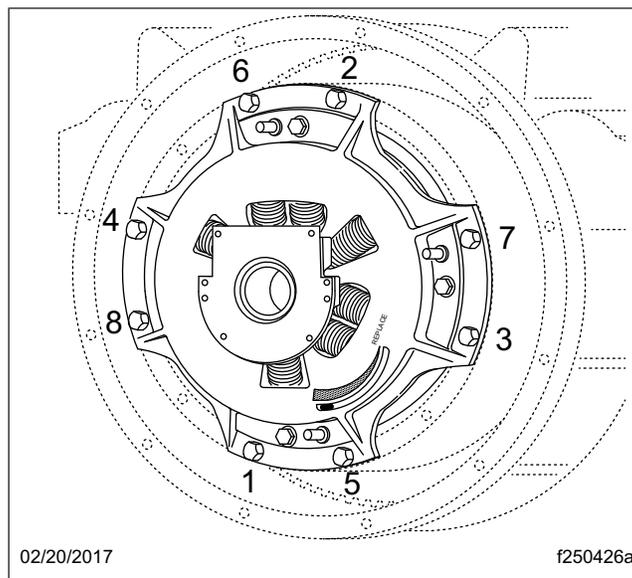

Fig. 4, Tightening Sequence
7. Progressively tighten the mounting bolts in a crisscross pattern starting with the lower left bolt. Torque to 45 lbf-ft (61 N·m). See Fig. 4.